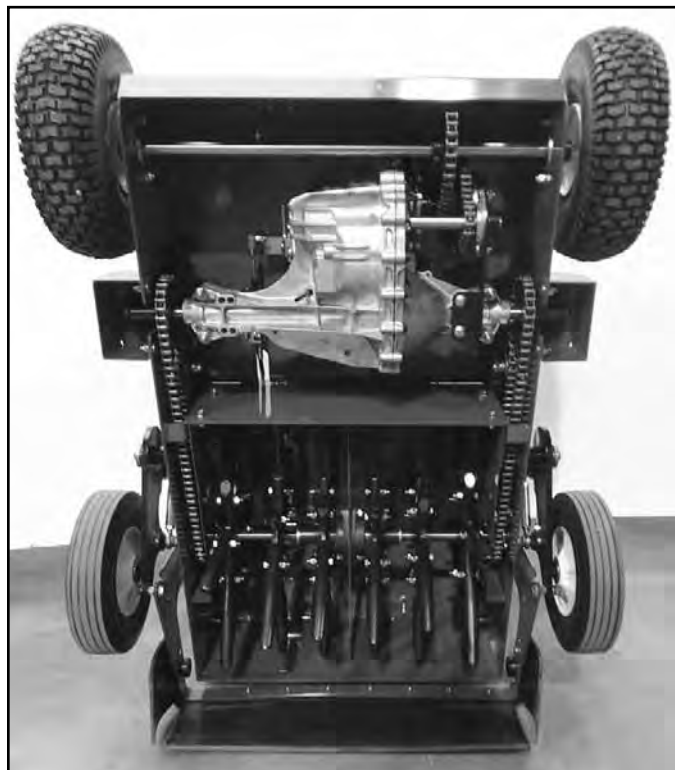

Fig. 094
4. Slowly lift the front of the machine until the back of the machine and weight pockets are resting on the ground. Stabilize the machine with an overhead hoist (Fig. 094).